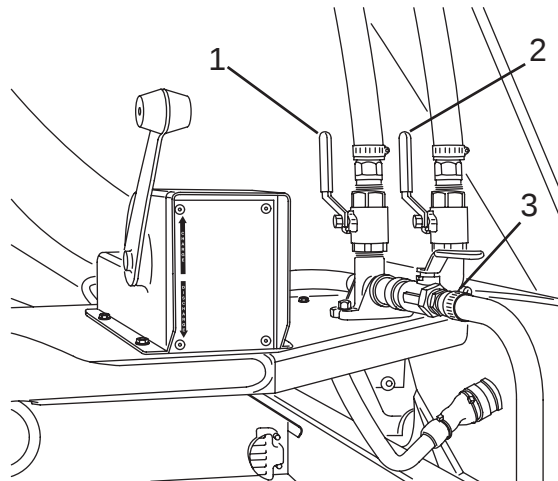

Figure 92
12. Open wash-out hose valve (Figure 92, Item 3) at the rear of the Mixer and allow water to drain.
13. Open wash-out valve (Figure 92, Item 1) and add-water valve (Figure 92, Item 2) and allow water to drain through wash-out hose.